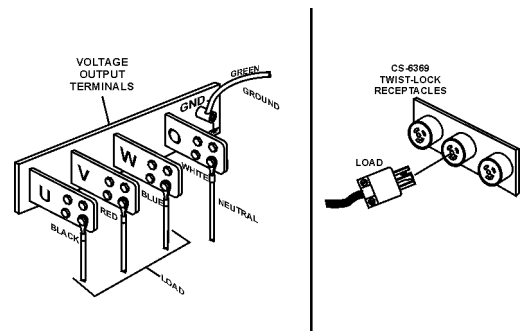

Figure 37. Load Connections
4. Connect the load to the UVWO terminals or auxiliary receptacles as shown in Figure 37. These load connection points can be found on the output terminal panel. To gain access to the UVWO busbar terminals or other power receptacles, unlock the access cover and lift the door.